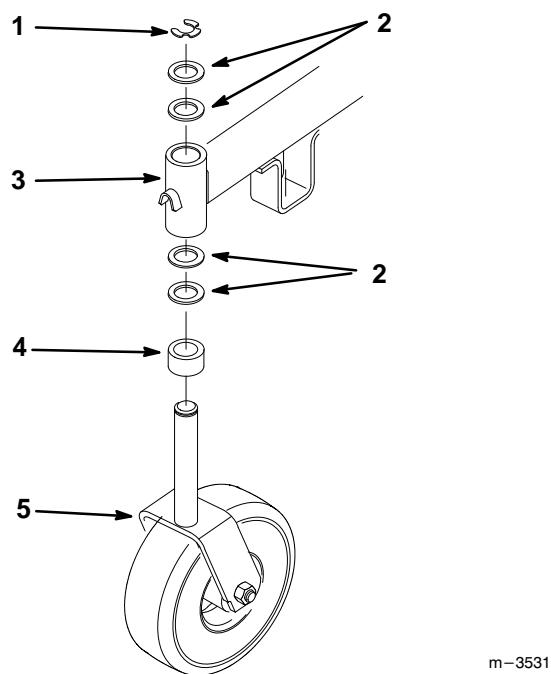

Figure 34
4. To change the front-to-rear pitch, remove the retaining ring and move an equal number of thrust washers on both castor wheel forks. Move the thrust washers from the top of the carrier frame mounting tube to the bottom to raise the front of the mower. Move the thrust washers from the bottom of the mounting tube to the top to lower the front of the mower (Fig. 34).
4. To change the side-to-side leveling, remove the retaining ring and move the thrust washers on one castor wheel fork only. Move the thrust washers from the top of the carrier frame mounting tube to the bottom to raise the corresponding side of the mower. Move the thrust washers from the bottom of the mounting tube to the top to lower the corresponding side of the mower. (Fig. 34).
2. Remove the retaining ring and thrust washer(s) from the top of the castor wheel fork (Fig. 34).
6. Inspect the castor wheel fork for wear and replace if necessary (Fig. 34).
7. Slide the castor wheel fork through the bushings in the mounting tube. Replace the thrust washer(s) onto the fork and secure with the lynch pin (Fig 34).